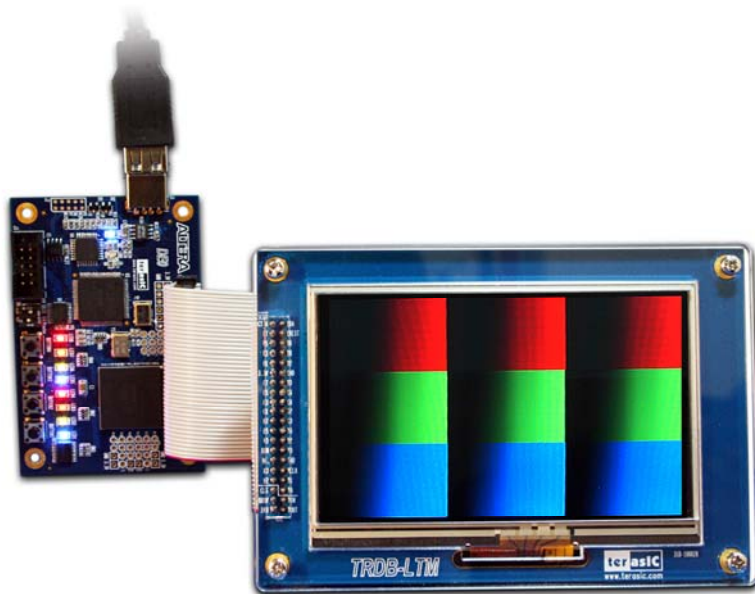

Figure 4.13. The connection setup for the pattern generator demo with DEN board
1. Ensure the connection is made correctly as shown in Figure 4.13. Make sure the IDE cable is connected to the extension header of the DEN board